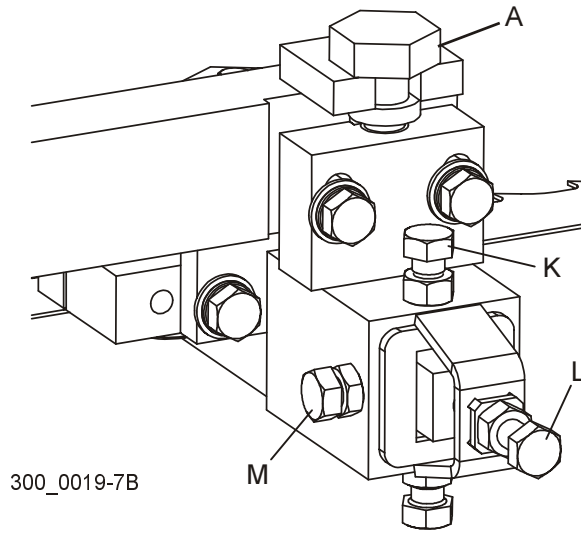

FIG. 7-34
See Figure 7-34. To adjust, loosen one bolt (K) and bolt (M). Slide the blade guide assembly in or out as necessary. Loosen the jam nut on bolt (L) and adjust the bolt until it